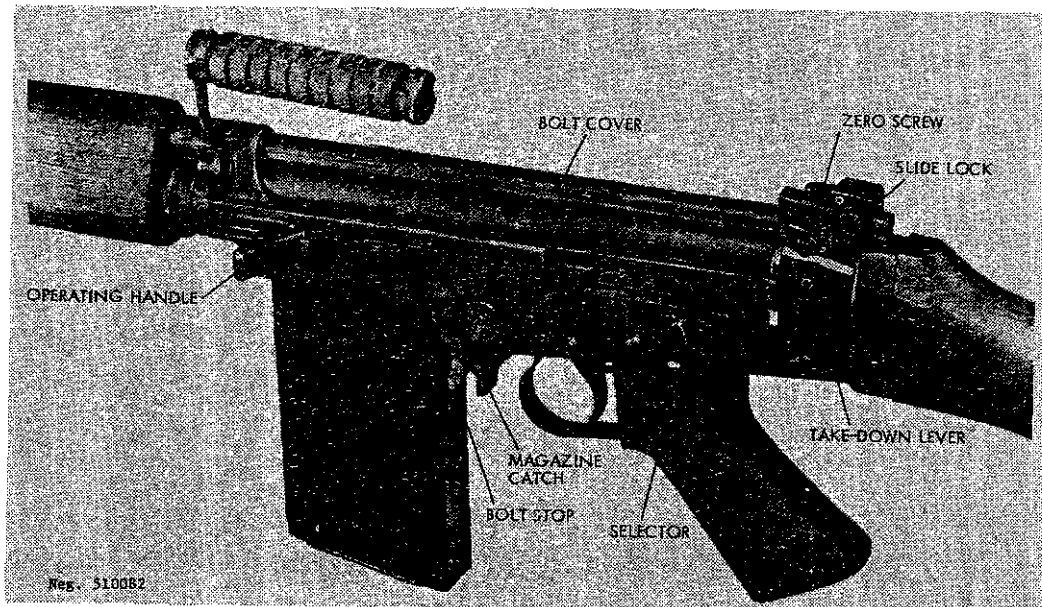

Figure 83. L1A1 receiver details.
b. Grasp the magazine by its base, and while holding it at a slight forward angle to insure that the lip on the top front of the magazine engages its seat in the receiver, insert the magazine into the magazine housing. Pull the bottom of the magazine to the rear until the magazine catch (fig 83) snaps into place.
c. Rotate the selector (fig 83) to its upper rear position (safe). Grasp the operating handle (fig 83) (unfolding it if necessary), pull it fully to the rear, and release it. CAUTION: The rifle is now loaded.
d. Adjust the rear sight for the desired range by unfolding (if necessary), by pressing in the slide lock (fig 83), and by sliding the aperture on its base until the number that corresponds to the range, in hundreds of meters, is visible.
f. Remove the magazine by pressing the magazine catch (fig 83) forward and, at the same time, rotate the magazine forward out of the gun. The bolt can be closed by pulling the
operating handle fully to the rear and then easing it forward or by pressing down the bolt stop (fig 83).
g. Clear the FAL by removing the magazine (f above), pressing up on and holding the bolt stop (fig 83), and then pulling the operating handle fully to the rear and releasing it. The bolt will remain open; inspect to insure that no cartridges are present. Move the selector from safe, depress the bolt stop, press the trigger, set the safety back on safe, and reinsert the magazine.
j. The front sight can be screwed up or down to adjust for elevation zero. Screw the sight clockwise (inward) to raise the point of impact. The rear sight can be zeroed laterally by means of the screws (fig 83) directly under it. Loosen one screw and tighten the opposing screw to move the sight. The sight will move toward the loosened screw, in the direction the shot pattern is to be moved.
b. The takedown lever (fig 83) may be either the older vertical type or the newer horizontal type. Press the former to the rear, press the latter upward, and while holding the FAL by its handguard, press the butt stock down to swing the rifle open.
c. Pull the bolt cover (fig 83) to the rear, off the receiver.